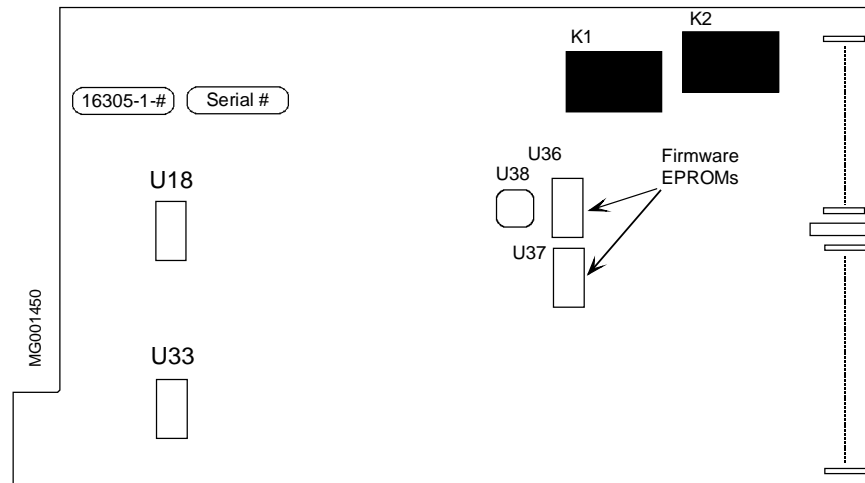

Figure 10-5 I/O Expander Board
3. Refer to Figure 10-5. Grasp the edge of the I/O Expander Board and pull the Board straight out of the case.